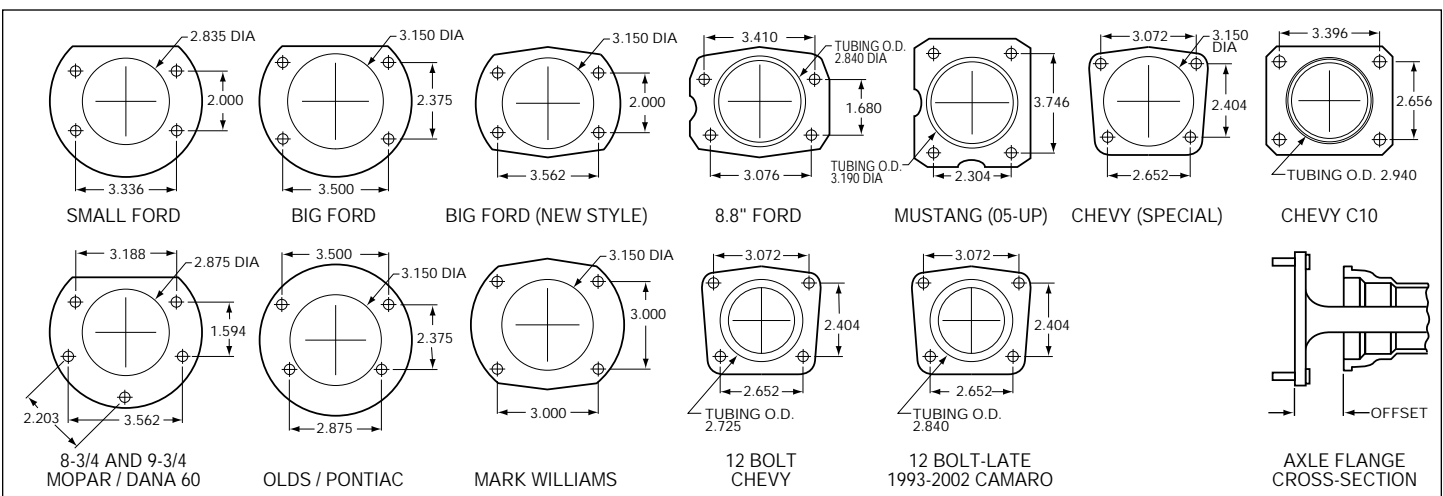

Figure 4. Rear Housing Flange Chart and Axle Flange / Cross-Section
- Make sure this is the correct kit to fit the axle housing flange, not necessarily the rear end make. Many times after market manufacturers put a different make of axle housing flange on the stock rear end housing (see Figure 4). Example; Big Ford rear ends with Olds-Pontiac flanges, therefore, an Olds-Pontiac rear disc brake kit would be the correct kit to order.
- Dimension from wheel side of axle flange to wheel side of axle housing flange (see Figure 4, lower right hand corner). This dimension is critical to ensure proper alignment of the rotor to the caliper, and should match offset given in the kit description.